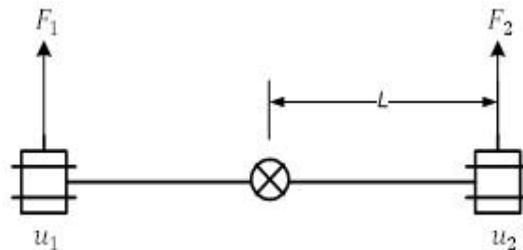

Figure 13: A model of the roll/pitch axis
Assuming that rotations about the x and y axes are decoupled, the motion in roll/pitch axis can be modeled as shown in Figure 13. As illustrated in this figure, two propellers contribute to the motion in each axis. The thrust generated by each motor can be calculated from Eq. (1) and using its corresponding input. The rotation around the center of gravity is produced by the difference in the generated thrusts. The roll/pitch angle, θ , can be formulated using the following dynamics